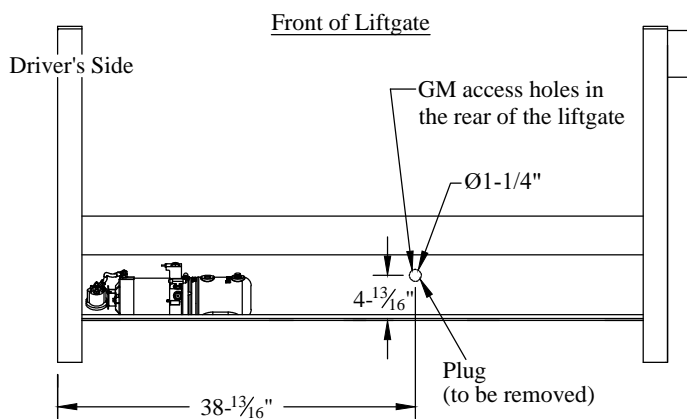

Figure 20: Spare tire access holes.
2. **Remove and Discard** the black plastic plug(s) from the mainframe in the location shown (Figure 20).